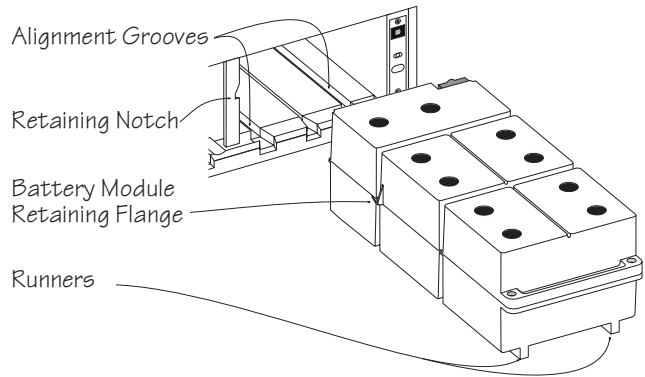

Fig 5-3 Battery Alignment Grooves and Runners
2. There are two alignment grooves molded into the bottom of the battery module bay. These correspond with runners that are molded into the bottom of the battery module. See figure 5-3.